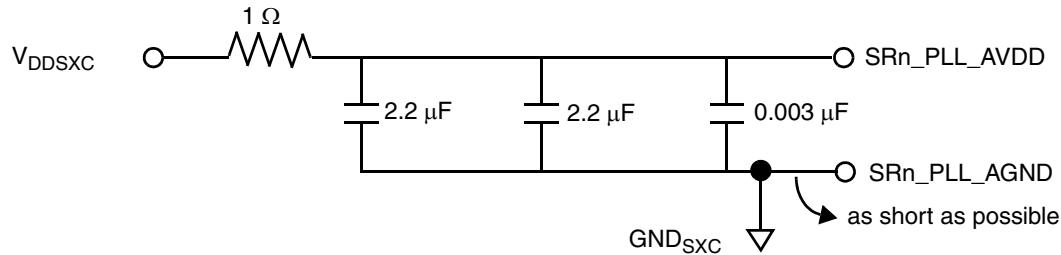

Figure 38. SerDes PLL Supplies
- Couple inputs SR1_PLL_AVDD and SR2_PLL_AVDD with SXCVDD1 and SXCVDD2 power rails, respectively, using an RC filter (see Figure 38).
Each SerDes PLL power supply must be filtered using a circuit similar to the one shown in Figure 38, to ensure stability of the internal clock. For maximum effectiveness, the filter circuit should be placed as closely as possible to the $\text{SR}_n\text{_PLL_AVDD}$ ball to ensure it filters out as much noise as possible. The ground connection should be near the $\text{SR}_n\text{_PLL_AVDD}$ ball. The $0.003 \mu\text{F}$ capacitor is closest to the ball, followed by the two $2.2 \mu\text{F}$ capacitors, and finally the 1Ω resistor to the board supply plane. The